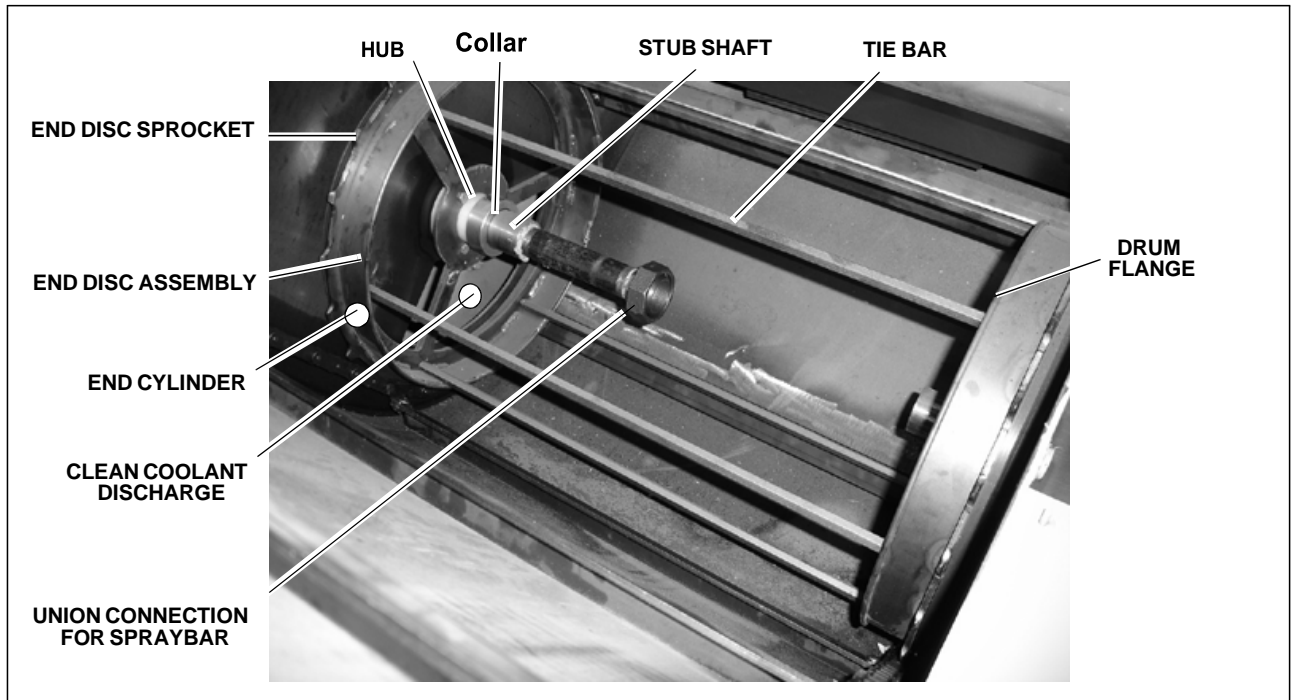

Figure 22. Drum With Media Removed
3. Position the first chain link (roller link) so that it is on top of the drum and engaged on a tooth on the drum end disk sprocket (both sides) Figure 22.
The filtration media fastened to the drum assembly is a permanent type of media and should provide service for an extended period of time, depending on the severity of service. Refer to Figures 22 and 23 for photographs of the Drum Assembly.